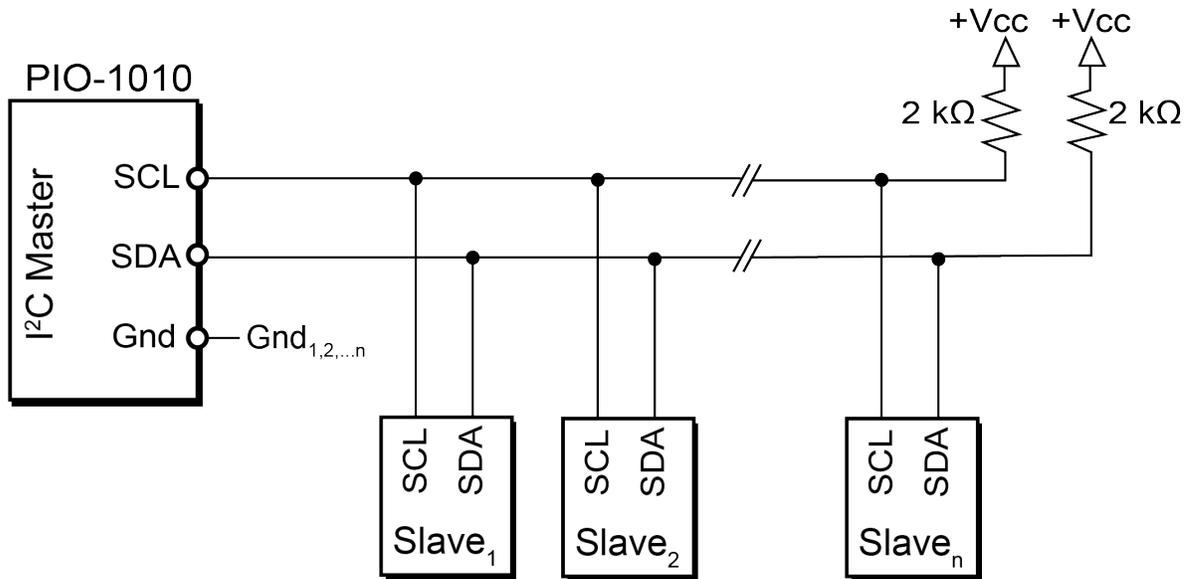

Figure 2-27 I²C Wiring
2.3.7.4 I²C Port Wiring **Figure 2-27** shows an example I²C network with external 2 kΩ pull-up resistors. The external pull-up resistors are optional depending on your application. At low baud rates, the built-in 4.99 kΩ resistors in the UEI-PIO-1010 are typically strong enough to restore the signal to logical HIGH before the line is driven LOW.
At fast baud rates (i.e., 400 kbaud and 1 Mbaud), we recommend adding external pull-up resistors to the far ends of the cable. The resistors connect between each signal line and +5V TTL as shown in **Figure 2-27**. The choice of resistor is application-specific and depends on factors such as the cable length and the total bus capacitance. A lower resistance value increases the rise speed but also increases power consumption.